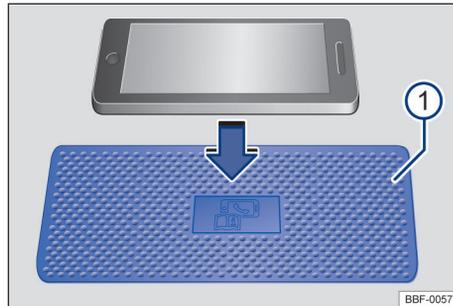

Fig. 125 Stowage compartment with pad for wireless charging function. The symbol on the lining pad may appear differently in some vehicles.
Depending on the vehicle version, the charging area → **Fig. 125** **①** of the wireless charging function is located in the middle of the centre console or storage compartment, in the area between the front seats.